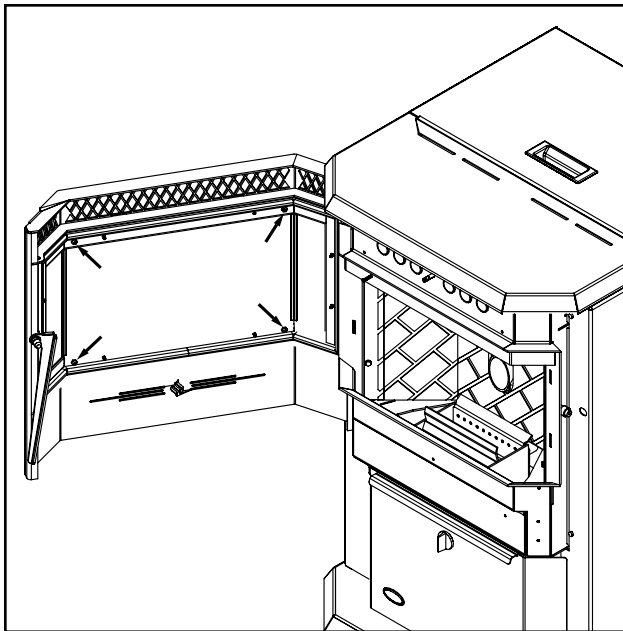

Figure 37: Inner side of door.
When stove is off and cool, open the door. Remove the four (4) #8 hex nuts around the inside of the glass retainer shown in Figure 37.